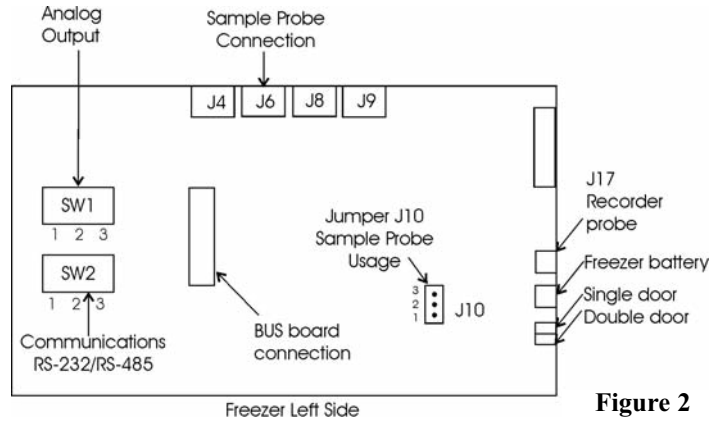

Figure 2
4. Locate J17 recorder connection on the micro board. Refer to Figure 2. Connect the probe.